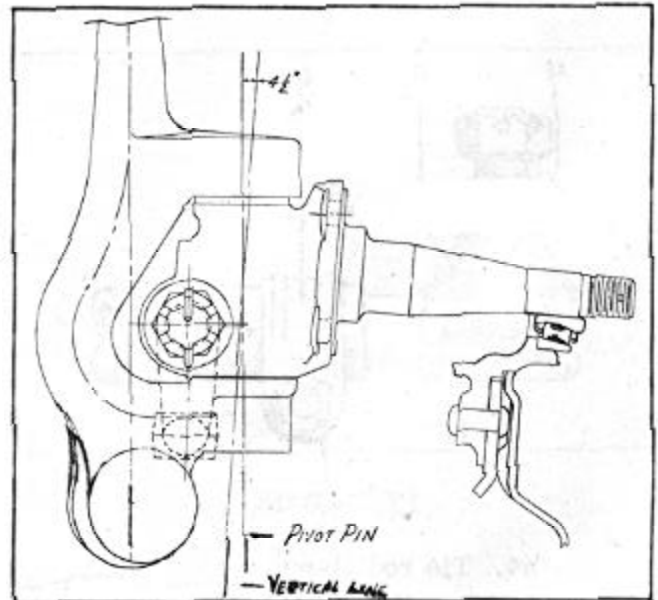

FIGURE 21
3. Support arms bent or twisted. Check wheel alignment by testing camber, steering pivot pin inclination and caster. If support arms have been removed from the car, check specifications as shown in Figure 21. Replace arms - do not attempt straightening.
6. Check Steering spindle support and steering arm alignment, Figure 21. Replace if bent--do not attempt straightening.